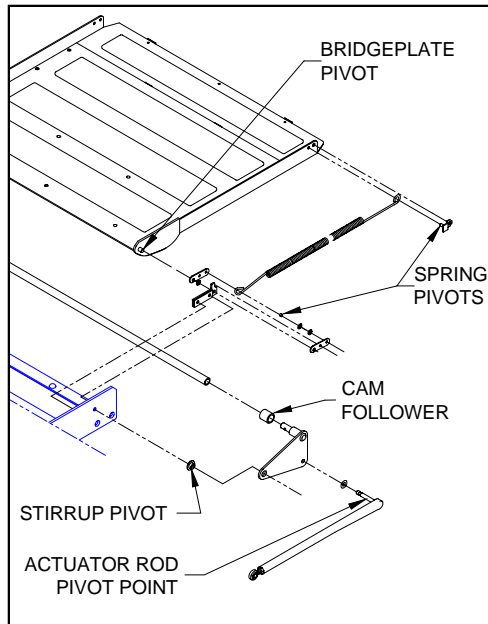

FIGURE 4-8: STEPWELL BRIDGEPLATE LUBRICATION POINTS
- 3) Refer to **Figures 4-8** and **4-9**. Lubricate the points indicated in the applicable figure with light grease (ZEP PLS, p/n 497C, Curtisol® Red Grease p/n 88167, or equivalent). Wipe off excess grease. Repeat for other side of bridgeplate.